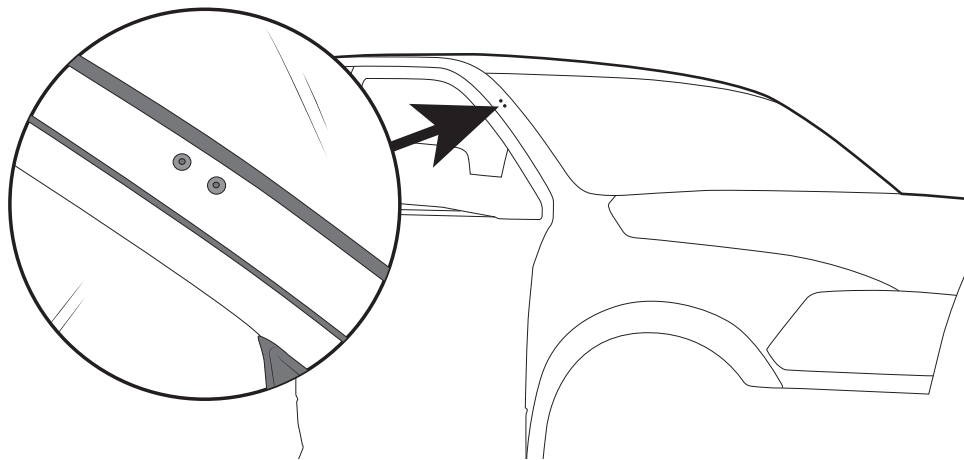

Figure 20
8. Install rubber well-nuts by inserting into the 1/2" hole (Fig. 20).